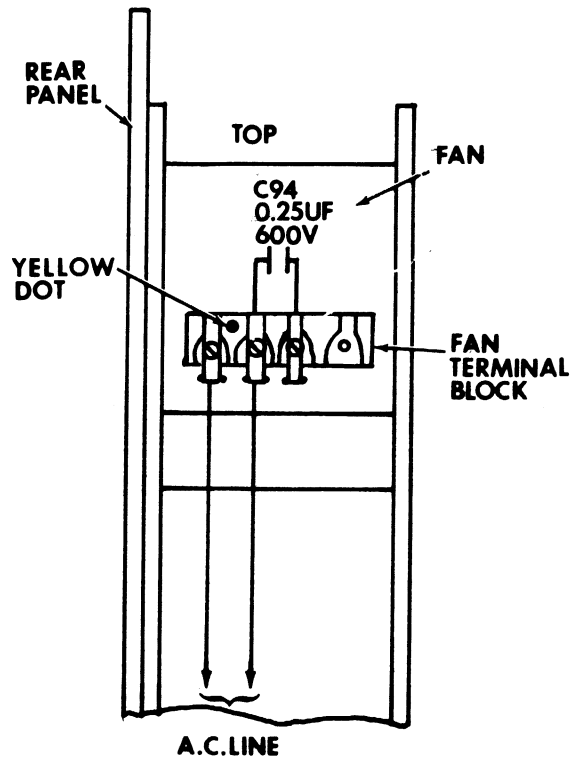

Figure 3
8. Simultaneously connect the AC line wires and the connecting wires of capacitor C94 to the fan terminal block as shown in figure 3. Capacitor C94 is supplied with the connecting wires attached to the capacitor.